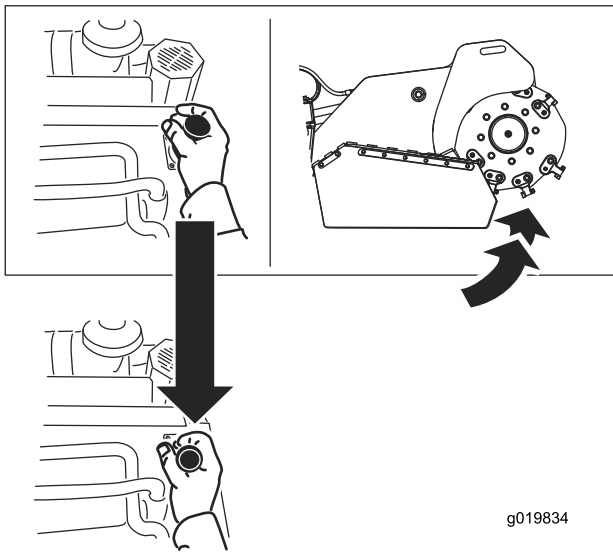

Figure 14
- To raise the grinder, pull back on the lever (Figure 14).